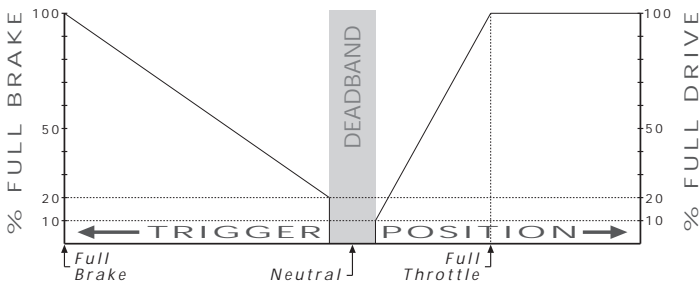

Figure 11: Graphical display of the Full Throttle position shifted toward Neutral for Drag Racing.
•One example for changing these parameters would be for Drag Racing, where a shorter trigger throw may be desirable in order to reach Full Drive faster by pulling the trigger a shorter distance. You would do this by decreasing the value for Full Throttle (Figure 11).